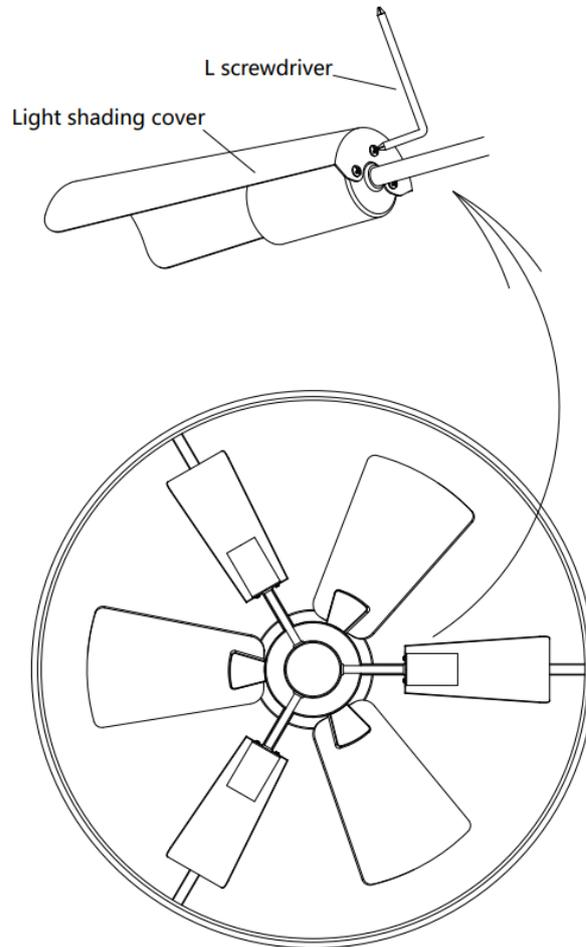

Fig. 4
INSTALLING THE FAN**INSTALLING THE LIGHT SHADING COVER (Fig.4)**
- attach the light shading covers onto the sockets and secure them by tightening the fixing screws with the L screwdriver. (Fig.4)